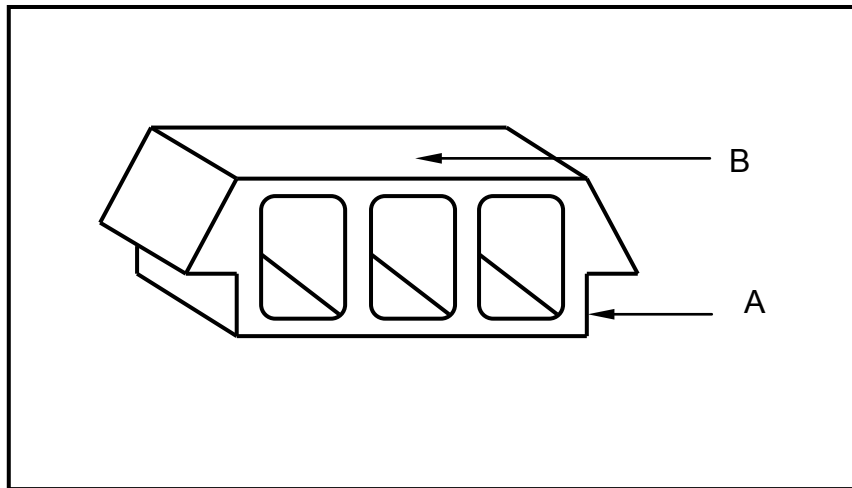

FIGURE 2.1
- 2.1 FIGURE 2.1 below is a drawing of a block used in the first floor of a double-storey house.